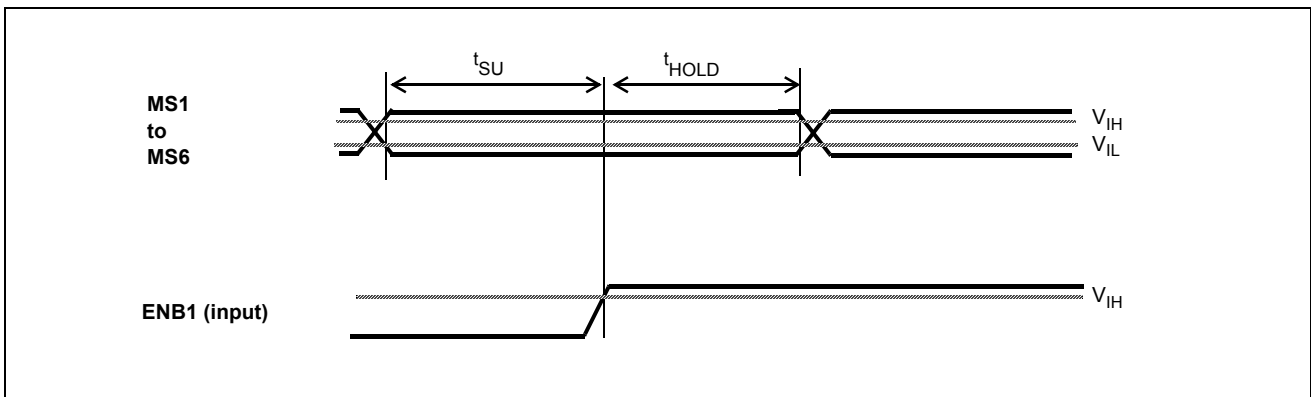

Figure 16 - SSI Mode Select Set-up and Hold Timing
**AC Electrical Characteristics† - Mode Select Timing (see Figures 16 & 17)**